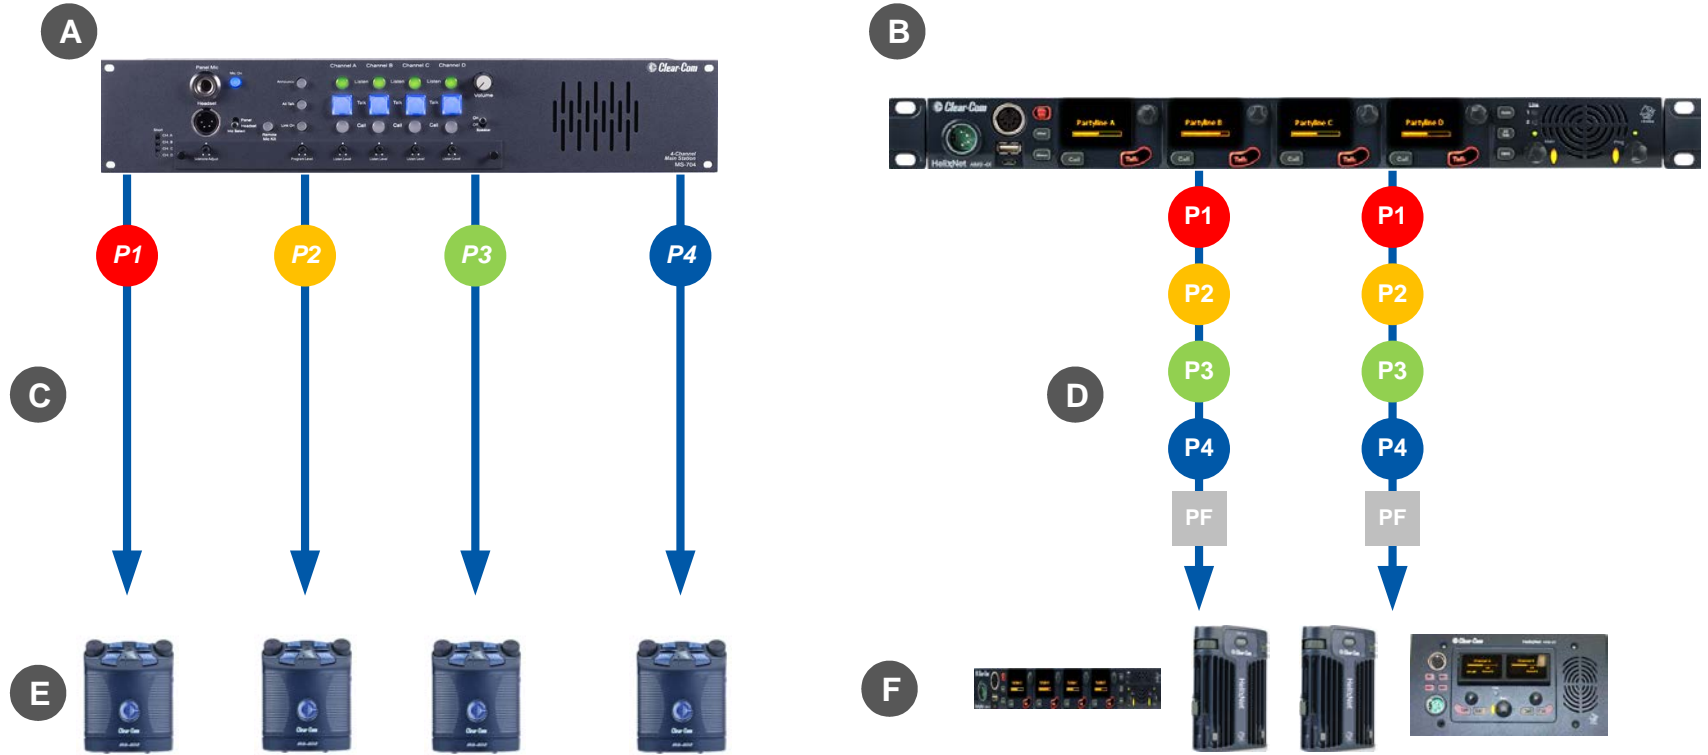

Figure 3-1: Analog and digital cabling comparison
C	<p>The second layout uses an XLR Bulkhead and a Mult-box (passive (Y) splitters) to combine:</p> <p>A daisy chain (with optional redundancy flyback).</p> <p>Point-to-point connected beltacks (using the Mult-box).</p> <p>The complexity and variety of layouts does not restrict physical access to channels.</p> <p>Because HelixNet Partyline is a digital system, the HelixNet Stations can access any of the available channels (plus a Program Feed), however they are connected to the main station (see Figure 3-1: Analog and digital cabling comparison).</p>